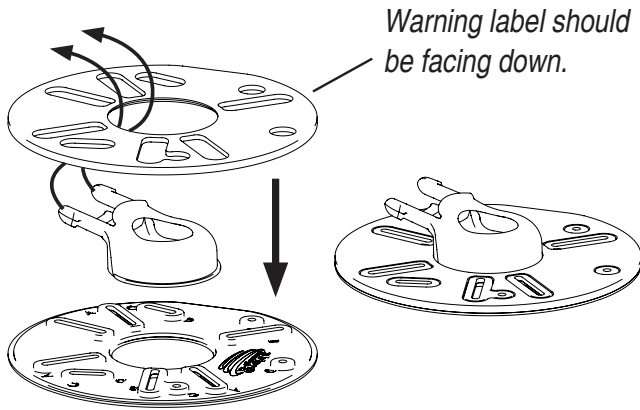

Fig. 1
2. Place the flat side of the universal plate with the Oneida logo on a flat surface. Set the dome over the large center hole. Insert the prongs of the dome into the center hole of the second universal plate and line up the plates so that they match. (Fig. 1)